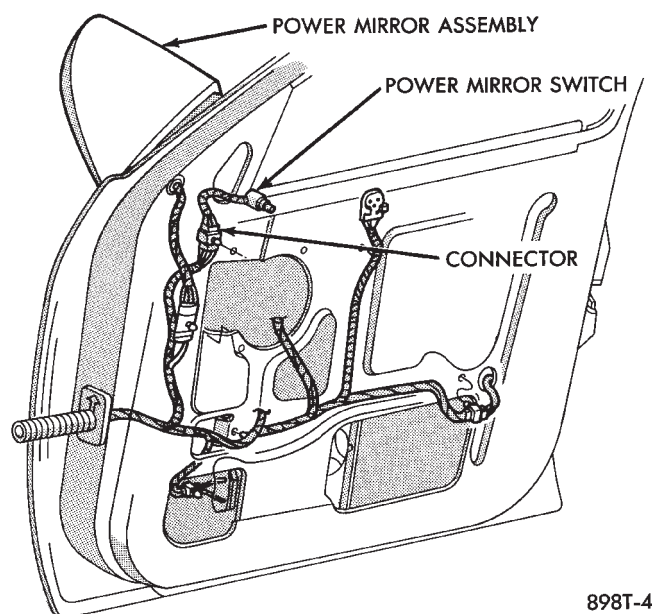

Fig. 9 Power Mirror Switch — AA Body
- (1) Remove door trim panel.
- (2) Remove set screw from pillar trim bezel.
- (3) Remove pillar trim bezel retaining screws.
- (4) Disconnect switch wiring (Fig. 9).
- (5) Remove switch from switch bezel.
- (6) For installation, reverse above procedure.